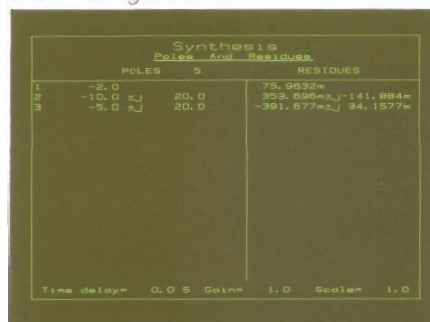

Figure 10-4
**2. Display Table** To display the new table select the **POLE RESIDU** softkey. The table will appear as shown in Figure 10-4.